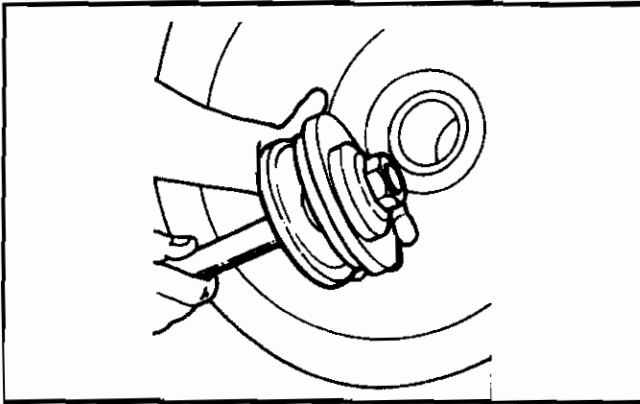

Figure 5. Seal and adapter on the tool rod
4. Set the smaller O.D. of the seal in the recess of the tool adapter (Figure 5).